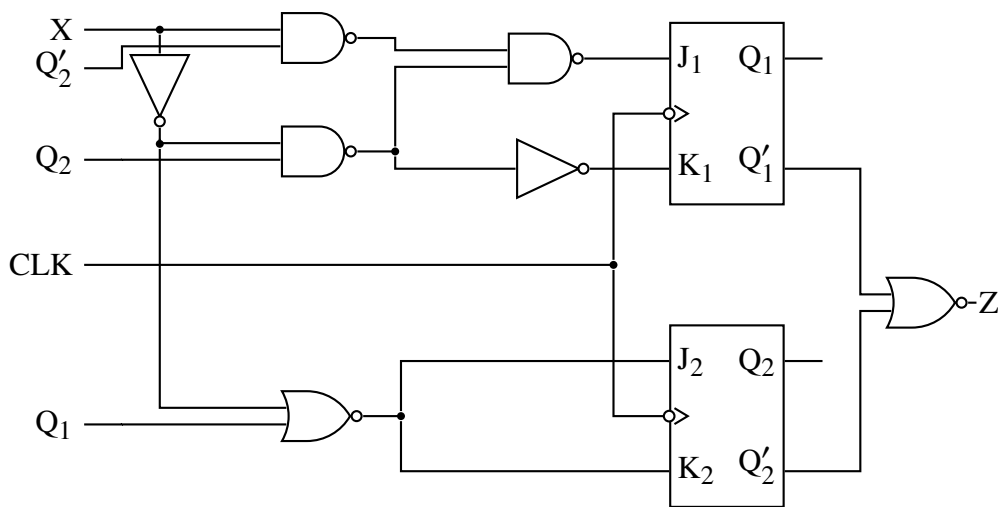

Fig. 2
- 2 (a) Consider the circuit in Fig. 2.